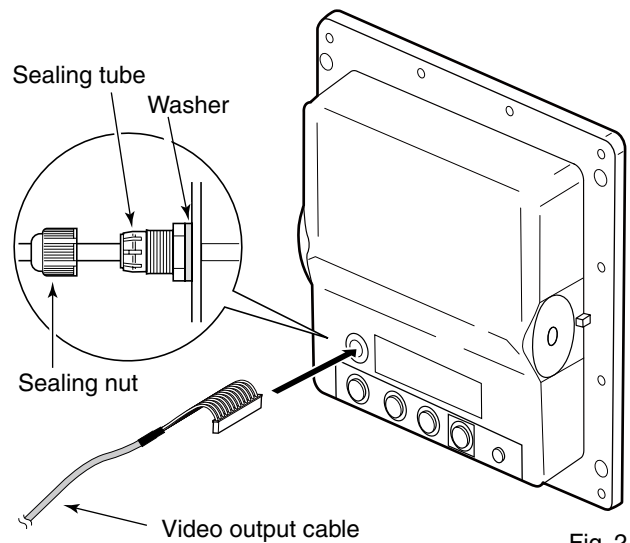

Fig. 2
- ④ Pass the video output cable through the hole, then screw in and tighten the sealing tube. (Fig. 2)